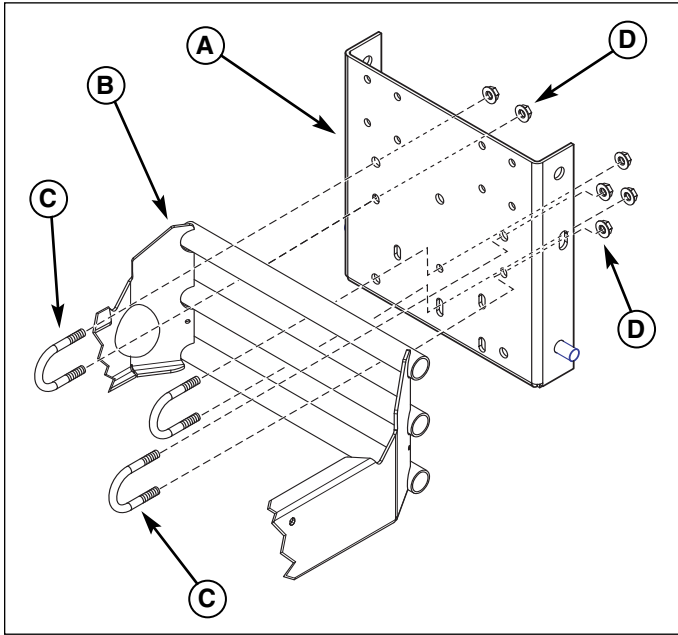

**Figure 5. Belt Routing**
5. Push the lever (A, Figure 5) counterclockwise to release tension on the belt, and install the belt on the arbor pulley (B).
2. Push the lever (A, Figure 5) counterclockwise to release tension on the belt, and remove the belt from the arbor pulley (B).